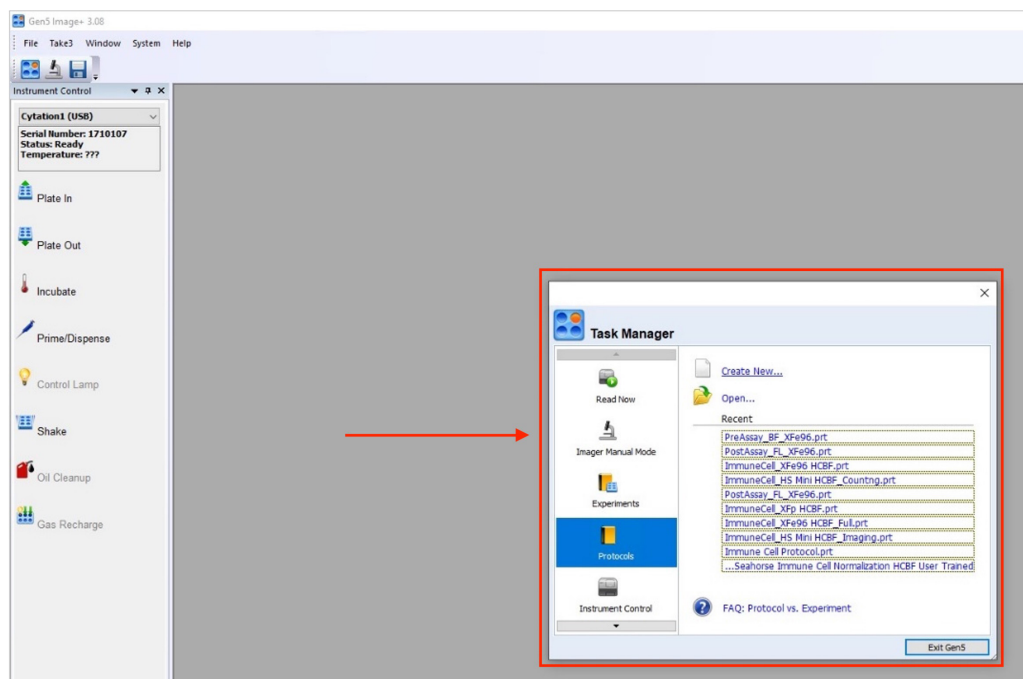

Figure 5. The **Task Manager** dialog in the Biotech Gen 5 application on the XFe Controller.
- 8 Open the Biotech Gen 5 application on the XFe Controller. The **Task Manager** dialog will appear (Figure 5).